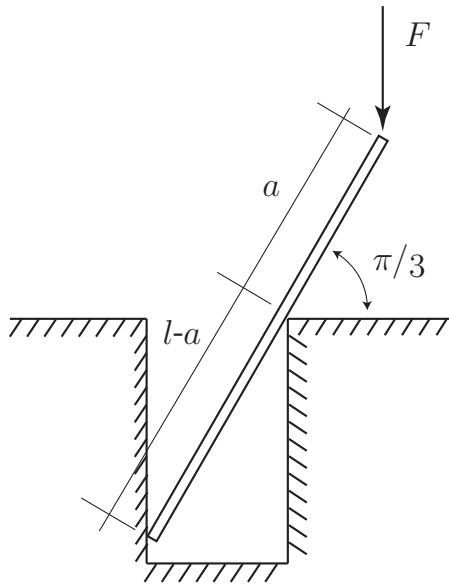

Figure 5: Problem 5.
5. A massless rod of length l is inserted in a slot and subjected to a vertical force of magnitude F ; see Fig. 5. Assuming that the rod is in a state of static equilibrium, find the necessary relation between a and l for this to hold true under the assumption that all surfaces are smooth (frictionless).